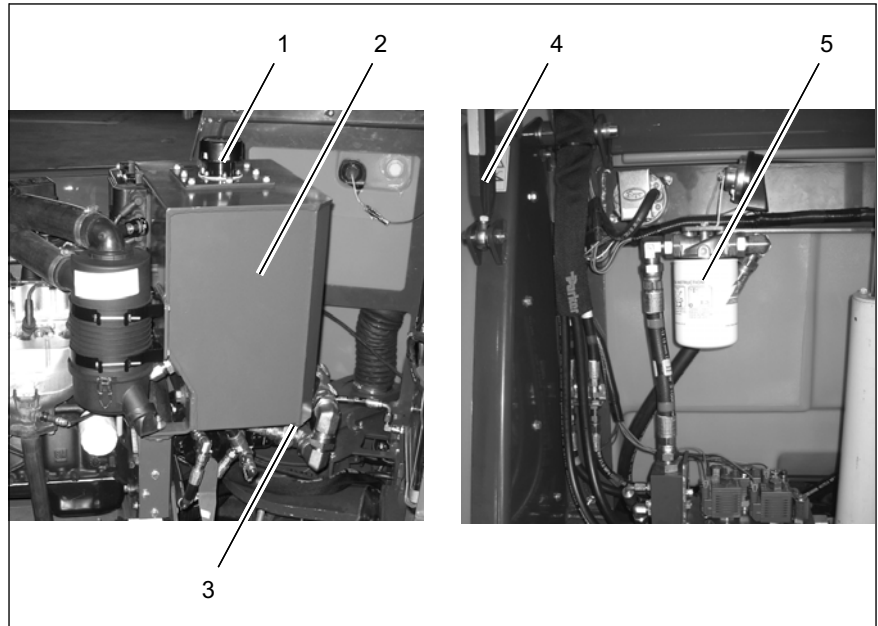

Fig.14
2. Remove lid (Fig. 14/1) and wipe dipstick with clean cloth.
3. Place appropriate receptacle under drain plug (Fig. 14/3) of hydraulic fluid tank.